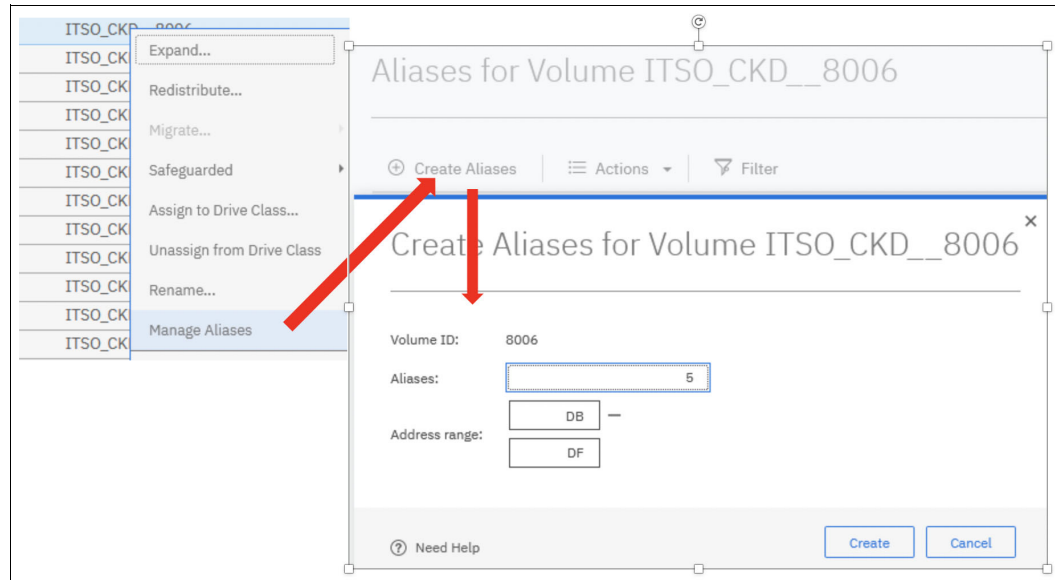

Figure 9-79 Configuring aliases for a single base volume
- Aliases can also be created for a single base volume by selecting the base volume, right-clicking, and selecting **Action** → **Manage Aliases**. Then select **Create Aliases**. Enter the number of aliases that you want for the base volume, as shown in Figure 9-79.